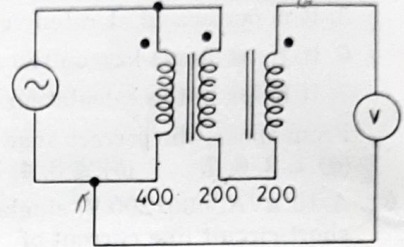

Fig. C.48.
73. A 400 V/200 V/200 V, 50 Hz, three-winding transformer is connected as shown in Fig. C.48. The reading of the voltmeter V will be